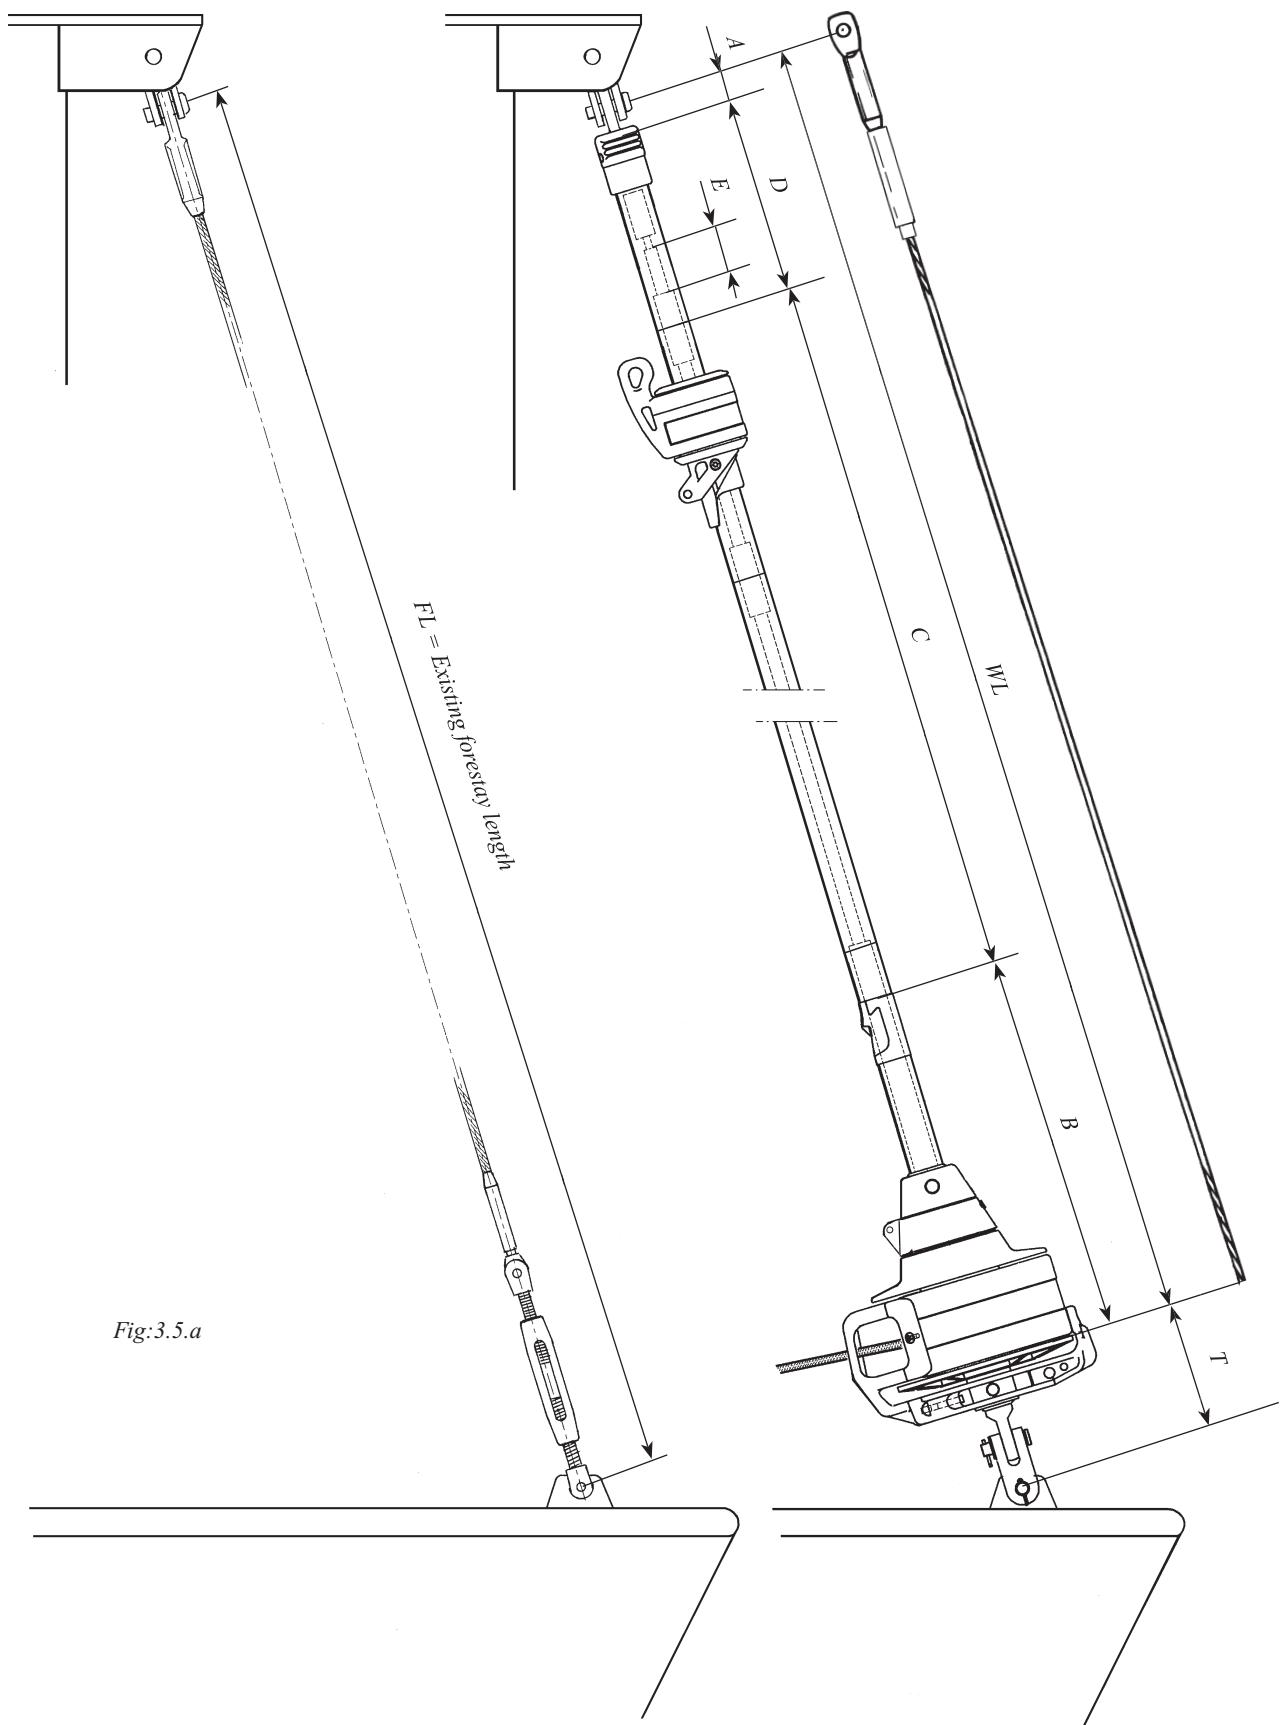

Fig.3.5.a
16. Check the length FL of the stay acc. **"Table 1"** (3.5.1) & Fig: 3.5.a. If the Furlex rigging screw is fitted, it should be 50% extended. (**"Rigging screw adjustment"**, see table 14.1.1.)